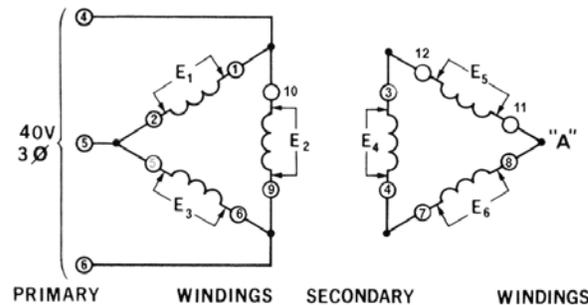

Figure 05-9.
- 7) Construct the 3-phase transformer shown in Figure 05-9.